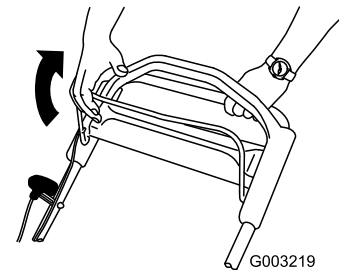

Figure 19
2. Hold the blade control bar against the handle (Figure 19).